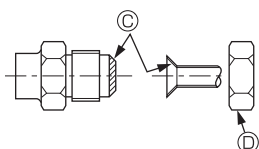

Fig. 4-3
A (Fig. 4-3)
4.3. Connecting pipes (Fig. 4-2) (Fig. 4-3)
- [Fig. 4-3]
- ① Pipes must be connected starting from the indoor unit.